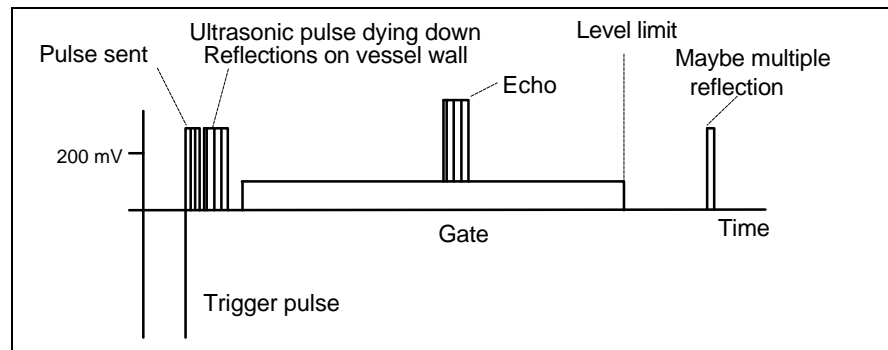

Figure 24: Signal at test output in pulse-echo method with vertical attachment of probe
- If no echo pulses can be seen as illustrated in Figure 24, increase the transmission energy (P03) and/or the gain (P04) until ultrasonic signals are received continually.